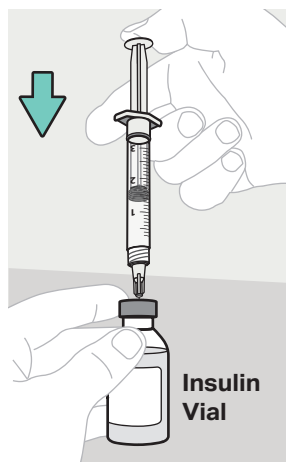

Figure 48
- i. Insert the syringe needle into the insulin vial while the vial is placed upright on a table or countertop. Push down on the syringe plunger rod to fill the vial with the air from the syringe (see Figure 48). Try not to insert air directly into the insulin.